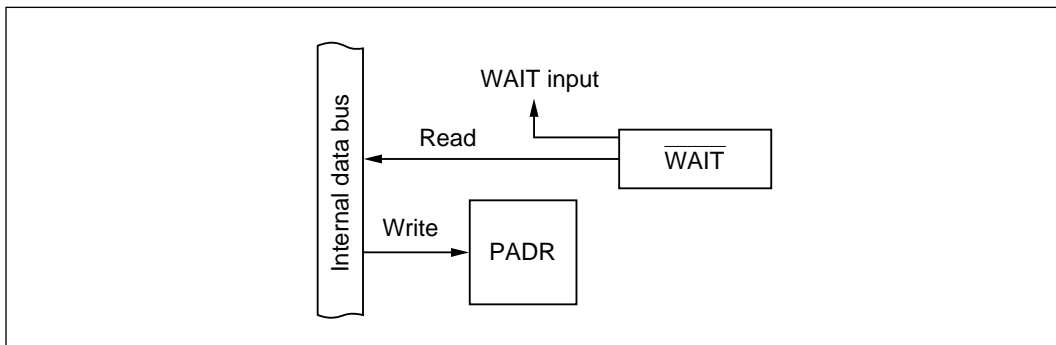

Figure 10-67 $\overline{\text{WAIT}}$ Input Pin (Modes 1 to 6)
(5) **$\overline{\text{WAIT}}$ Pin (PA₄; Modes 1 to 6):** Figure 10-67 shows a block diagram illustrating the $\overline{\text{WAIT}}$ function. Table 10-51 indicates register read/write data. When PA₆ is used for $\overline{\text{WAIT}}$ input, the value written in the port A data register (PADR) has no effect.